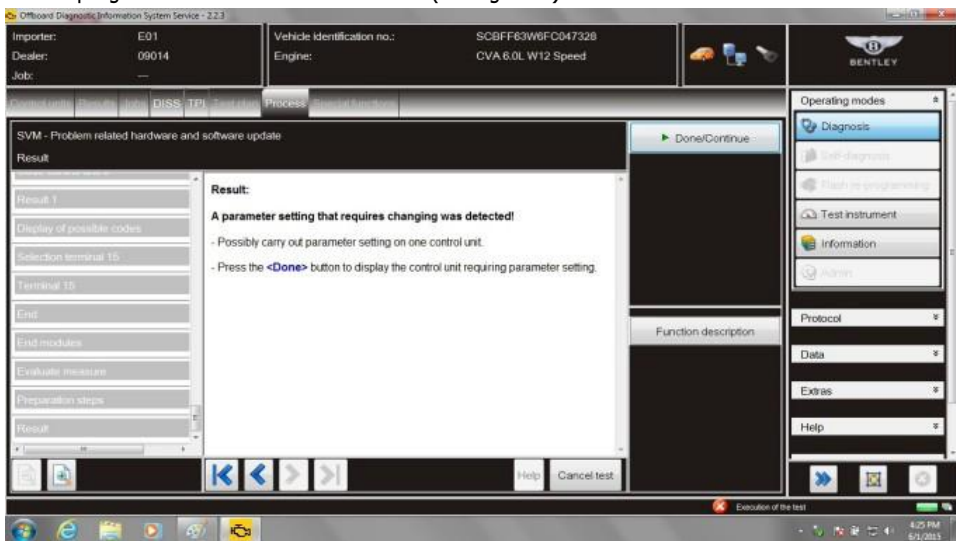

Figure 7
17. At Result screen for parameter settings detected select Continue (see Figure 7) follow screen prompts to allow automatic run of SVM